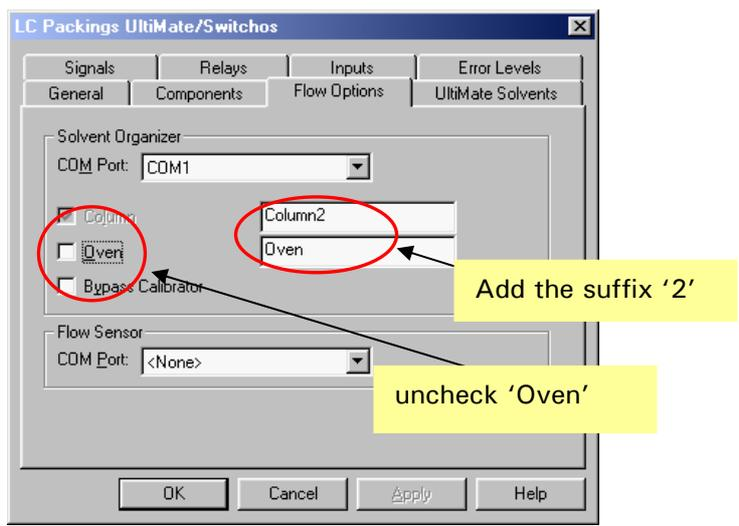

FIGURE B-13 Configuration of the Flow Options Tab
- i) Rename the column name on the *Flow Options* tab to 'column2'. Uncheck the **Oven** box, there is no second oven supported (FIGURE B-13).